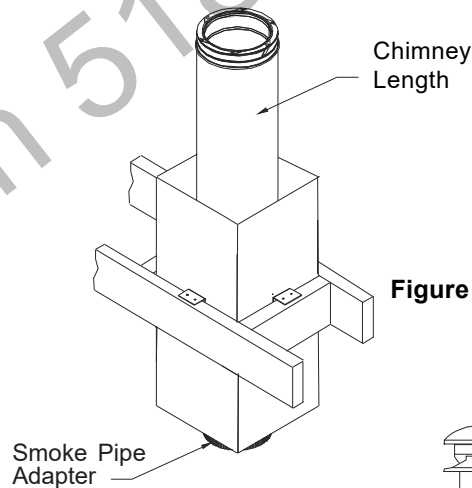

Figure 10b
5. Place the first section of chimney into the Ceiling Support with the Smoke Pipe Adapter protruding through the bottom opening (see Figure 10b).